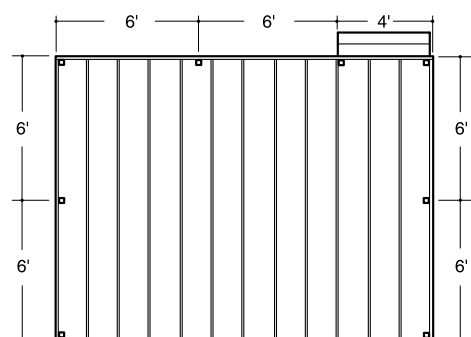

fig. 3
Step 1 Determine the number of railing posts needed for your deck. Post spacing is 6' on-center. Example: A 12' x 16' deck attached to a building with a 4' access opening on one side will require a total of eight posts (fig. 3).